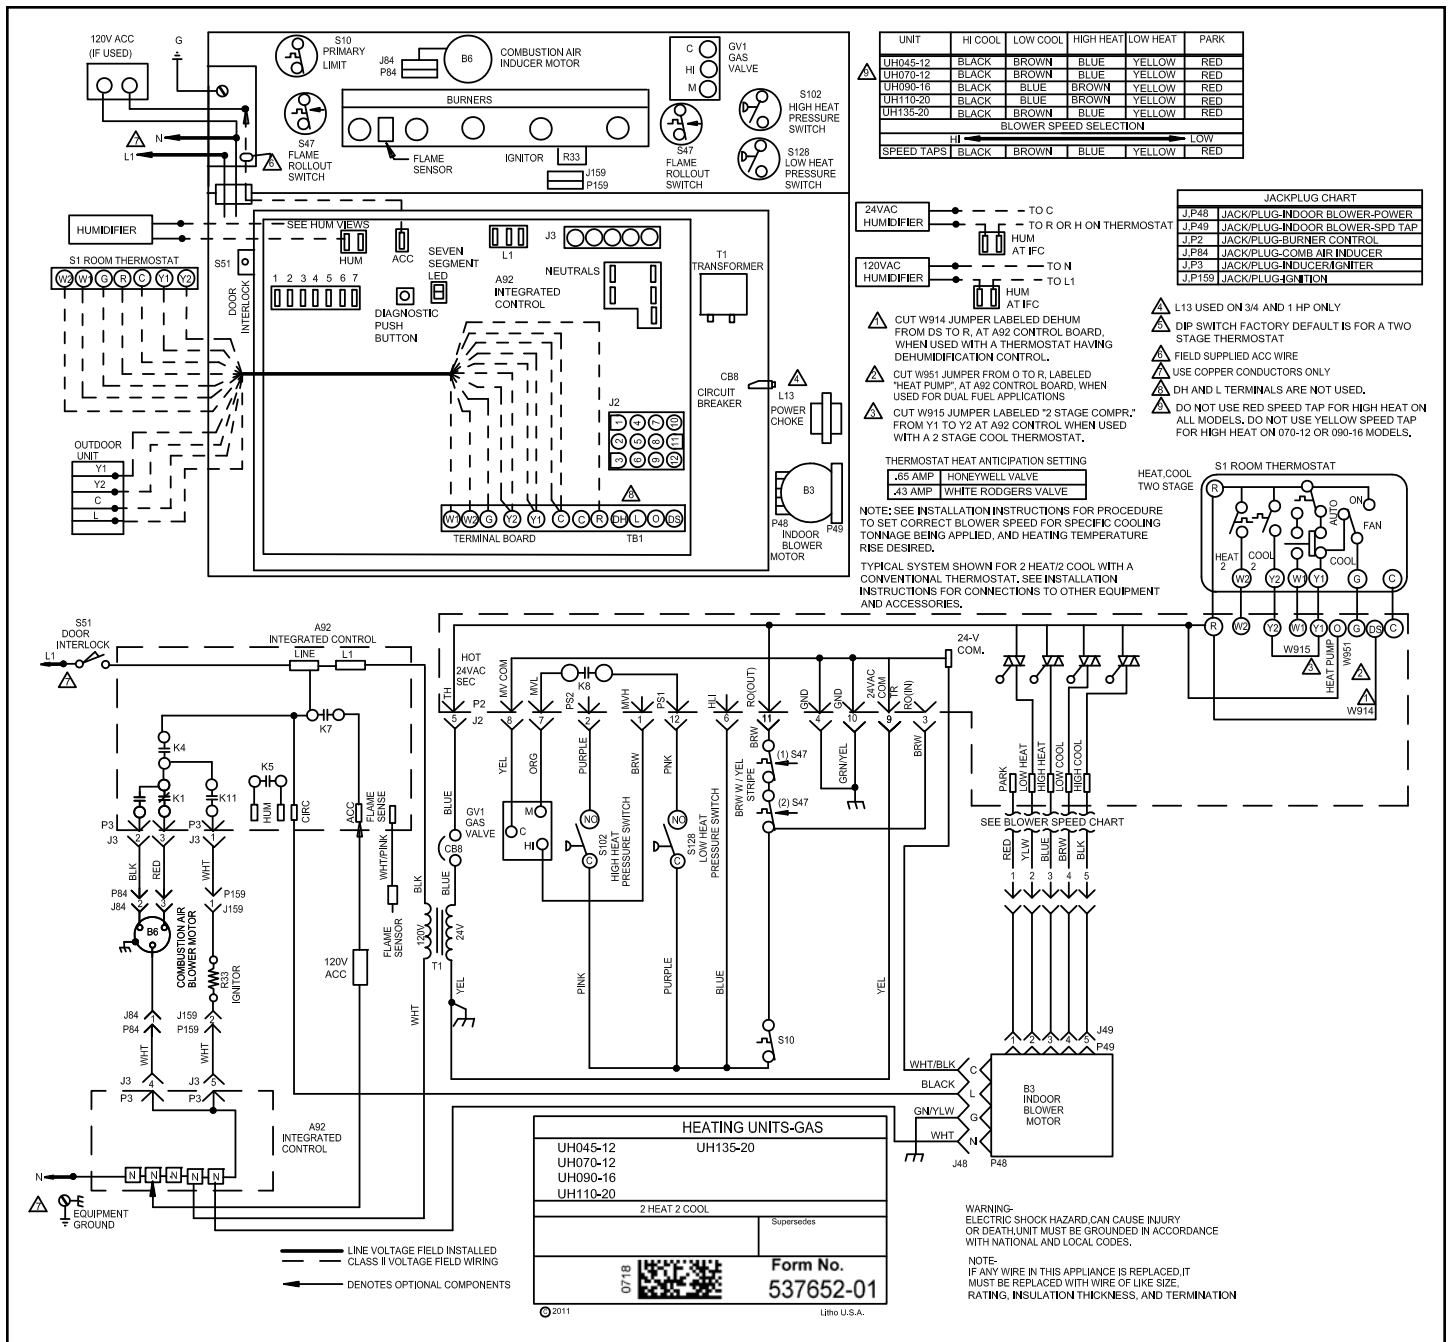

Figure 56. Wiring Diagram with Resideo/Honeywell Integrated Furnace Control 103132-xx
Refer to Figure 56 or Figure 57 for field wiring schematic wiring diagram and troubleshooting.
5. Complete the wiring connections to the equipment. Use the provided unit wiring diagram and the field wiring diagram shown in Figure 56 or Figure 57. Use 18 gauge wire or larger that is suitable for Class II rating for thermostat connections.